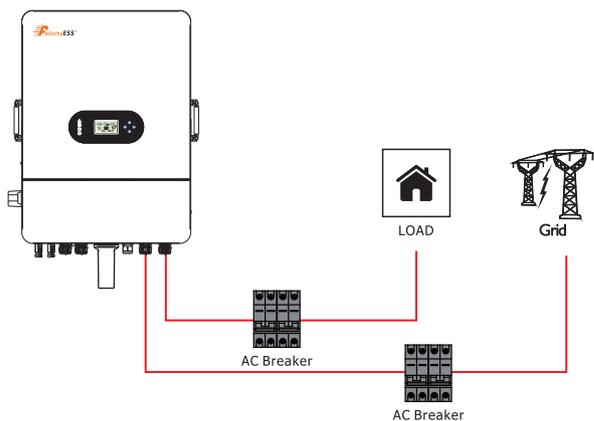

Figure 4.3-2 Ac breaker connection
1. On the AC side, the individual breaker should be connected between inverter and grid as well as loads. See Figure 4.3-2.